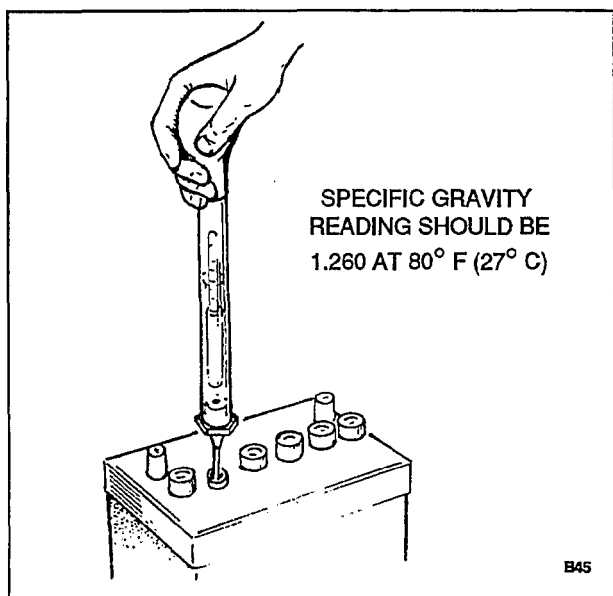

FIGURE 10. BATTERY CHECK
5. Use a battery hydrometer to check the specific gravity of the electrolyte in each battery cell (Figure 10). Charge the battery if the specific gravity measures less than 1.215. Do not overcharge the battery. Stop charging the battery when the electrolyte specific gravity reaches 1.260, at approximately 80° F (27° C).